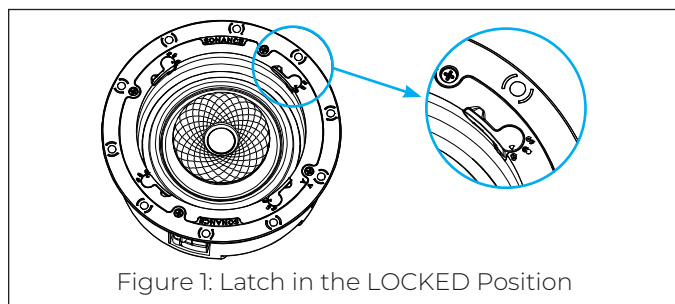

Figure 1: Latch in the LOCKED Position
1. Leave the Sonance VX speaker module Flex Frame latches in the LOCKED position as supplied out of the box. This will ensure that your VX speaker remains a single piece for the one-stage installation process (see Figure 1).